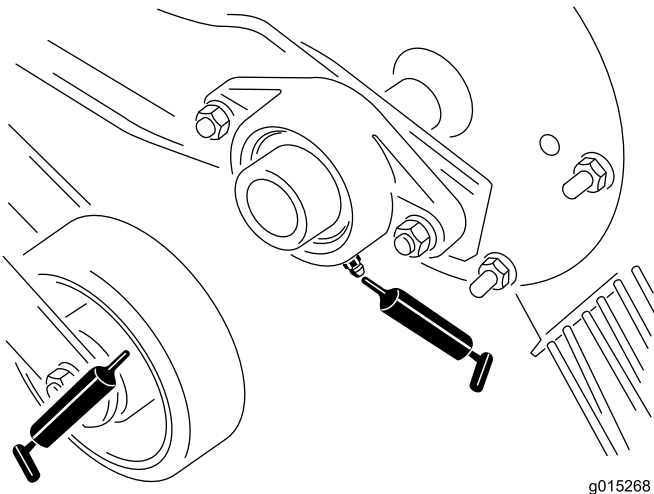
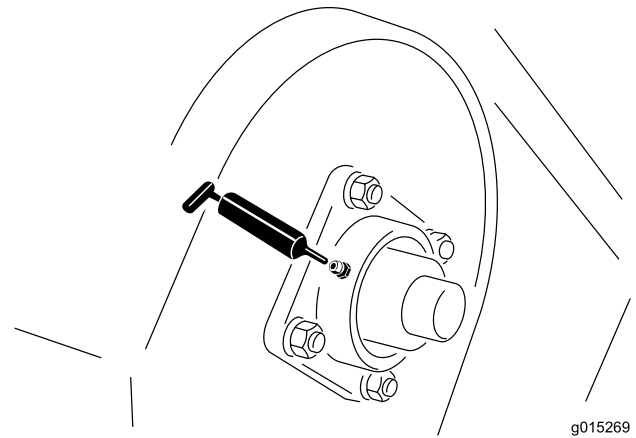
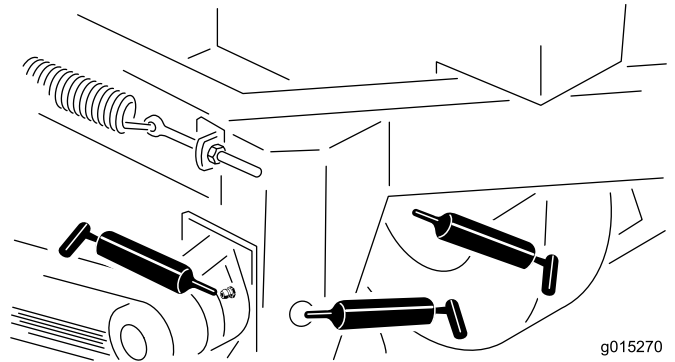

Figure 15
Figure 16
Figure 17
2. Pump grease into the bearing or bushing (Figure 15, Figure 16, and Figure 17).